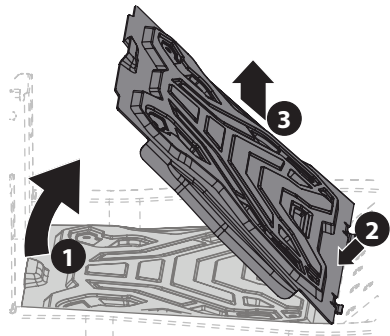

Figure 39
1. Carefully lift the rear of the floor panel (Figure 39).
2. Slide the floor panel rearward to free the front of the floor panel (Figure 39).
3. Lift it off the tractor (Figure 39 on page 26).